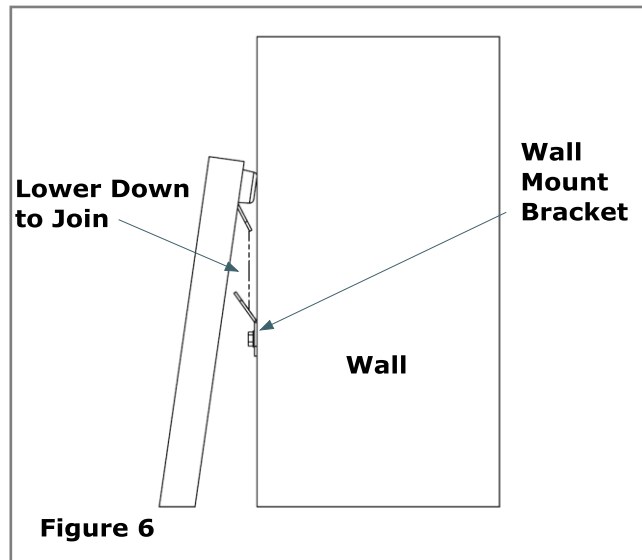

Figure 6
5. With the wall mount bracket in place, lift the mirror up and lower down at an angle to join on to the wall mount bracket. **(See Figure 6)**
4. Carefully lift mirror from wall mount bracket and lay face down on prepared floor space. **See Figure 6.**
See Figure 6.